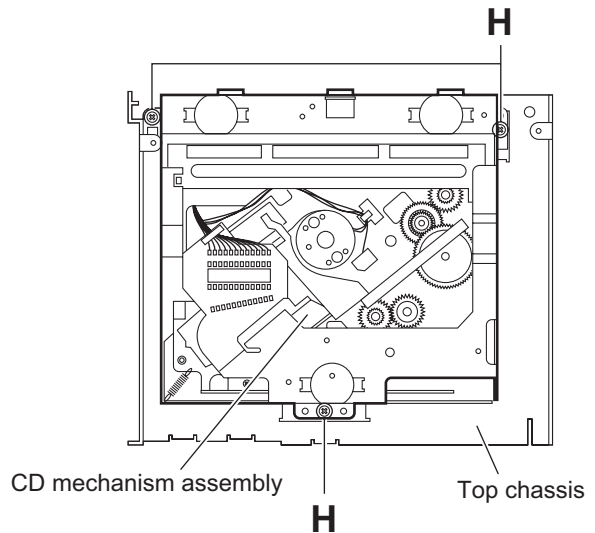

Fig.7
- (1) Remove the two screws **G** attaching the main board.
- (2) Disconnect the connector CN501 and remove the main board.
3.1.7 Removing the CD mechanism assembly (See Fig.7)